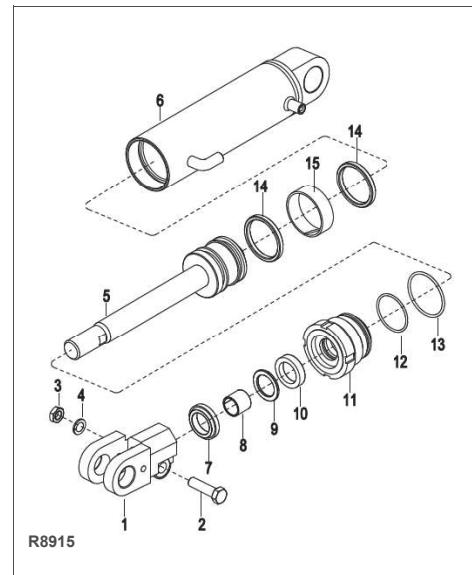

Figure 9-7 Tilt Cylinder
2. Remove nut (3, Figure 9-7), lock washer (4), bolt (2) and rod end (1) from piston rod (5).
3. Using spanner wrench, remove gland nut (11) from cylinder body (6).
4. Remove dust seal (7), shaft sleeve (8), cover plate (9), seal (10), O-ring (12) and O-ring (13) from gland nut (11).
5. Pull piston rod (5) from cylinder body (6).
6. Remove seal (14) and support ring (15) from the piston.